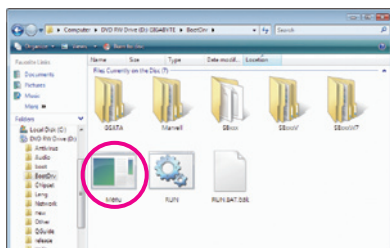
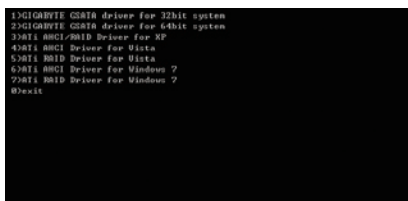

Figure 3
Figure 4
- 2: From your optical drive folder, double click the Menu.exe file in the BootDrv folder (Figure 3). A Command Prompt window will open similar to that in Figure 4.
- 3: Insert the blank formatted disk. Select the controller driver by pressing the corresponding letter from the menu and press <Enter>. For example, from the menu in Figure 4,